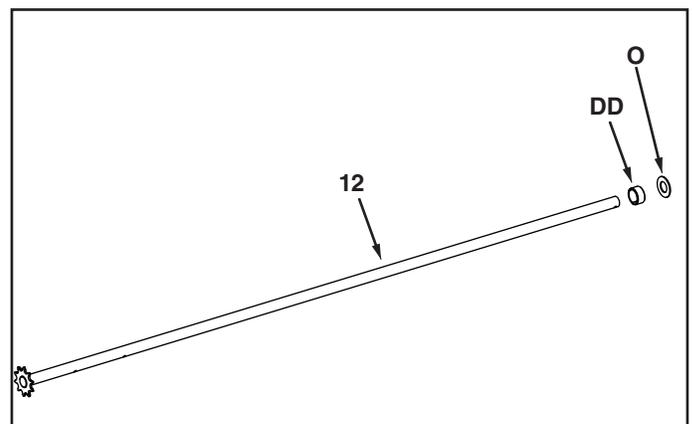

FIGURE 4
5. Assemble a 1/2" spacer (DD) and a 5/8" washer (O) onto the axle (12). See figure 4.